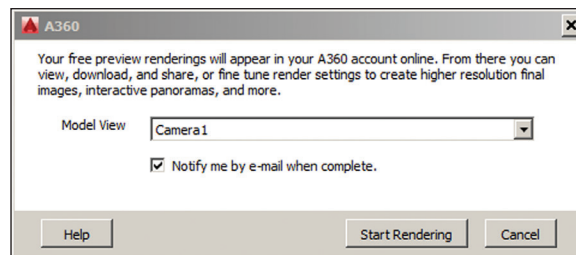

FIGURE 18.15 Selecting a model view for a preview render in the cloud
3. Save your work as **Ex18.4.dwg**. Click the Render In Cloud button in the A360 panel. Select Camera1 as the Model View in the A360 dialog box (see Figure 18.15) and click the Start Rendering button.